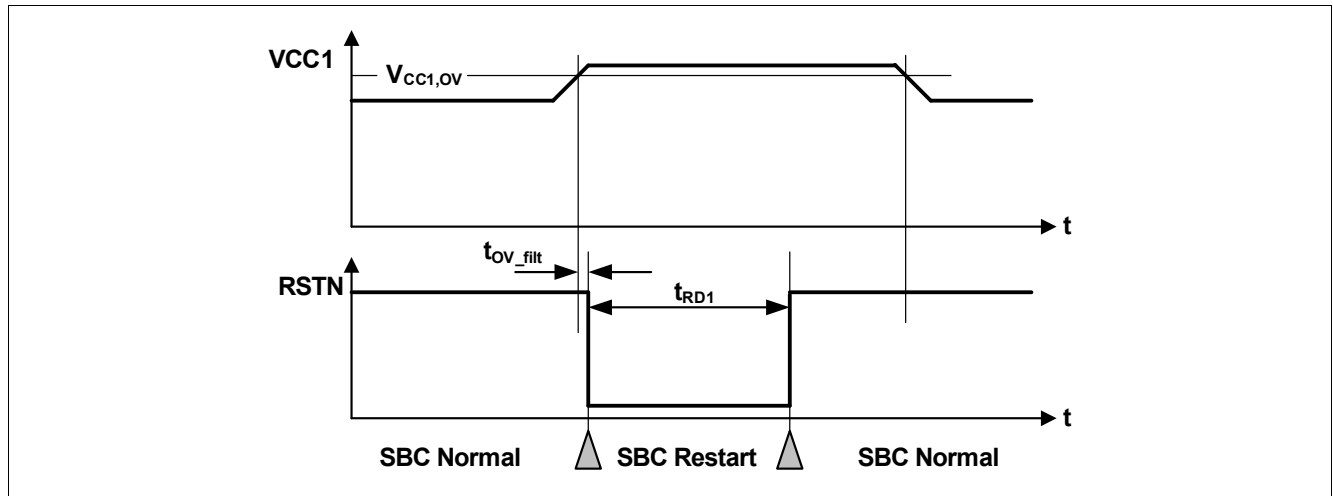

Figure 43 VCC1 Over Voltage Timing Diagram
- If the bit **VCC1_OV_RST** is set and **CFG0_STATE** = '1', then SBC Restart Mode is entered. The FO output is activated. After the reset delay time (t_{RD1}), the SBC Restart Mode is left and SBC Normal Mode is resumed even if the VCC1 over voltage event is still present (see also **Figure 43**). The **VCC1_OV_RST** bit is cleared automatically;